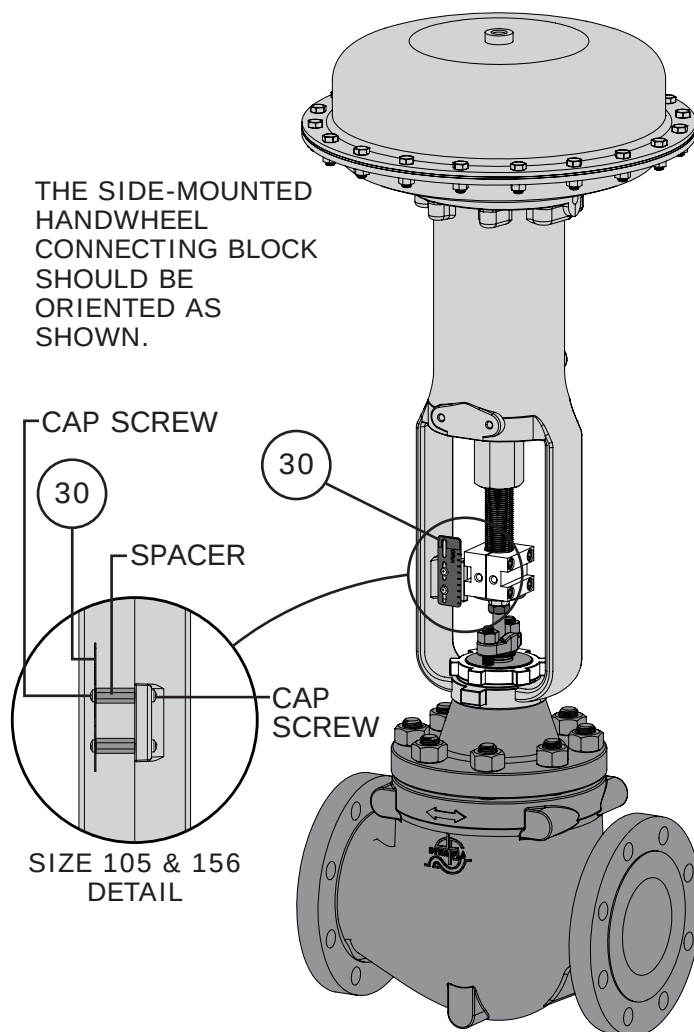

Figure 38 Side-Mounted Handwheel Connecting Block
- 6 Thread the one-piece side-mounted handwheel connecting block (Key 230) completely on to the actuator stem. Refer to Figure 38 for correct position and alignment of the connecting block.
- 8 Using the hex nut (Key 35) that was locked in place in Step 5 and the appropriate size of open end wrench, begin to thread the valve stem (Key V) into the side-mounted handwheel connecting block (Key 230) until the travel disc (Key 34) makes contact with the connecting block. Make adjustments as necessary to have the connecting block oriented as shown in Figure 38.